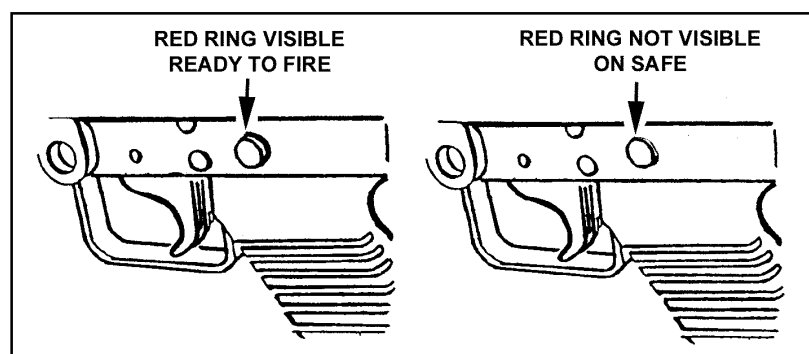

Figure 1-4. M249 machine gun safety.
b. **Safety.** The safety (Figure 1-4) is in the trigger housing. The safety is pushed from left to right (red ring not visible) to render the weapon safe, and the bolt cannot be released to go forward. The safety is pushed from right to left (red ring visible) to render the weapon ready to fire. The cocking handle on the right side of the weapon is used to pull the bolt to the rear.